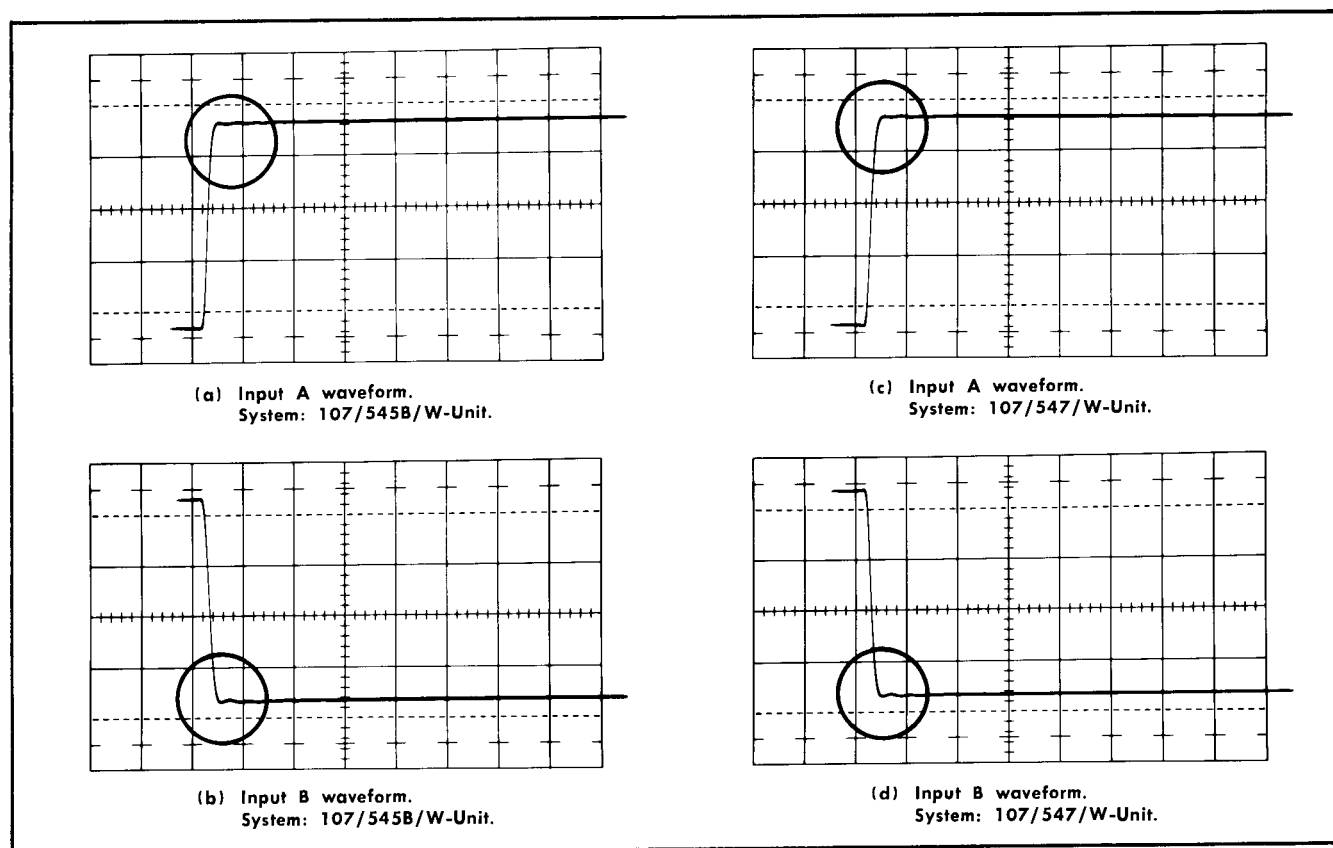

Fig. 5-4. Waveform displays obtained when C174, C274, and C284 are properly adjusted using the system as indicated.
r. Repeat steps 19-i through 19-o and check the A and B displays. Front corner aberrations should not exceed ± 1 mm. If it is necessary to improve the transient response, slightly readjust C174, C274 and C284 to obtain a best compromise of transient response and risetime (see Fig. 5-4).